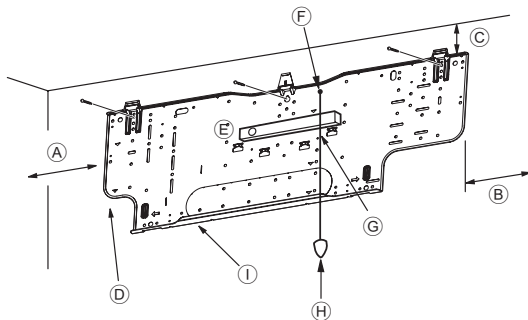
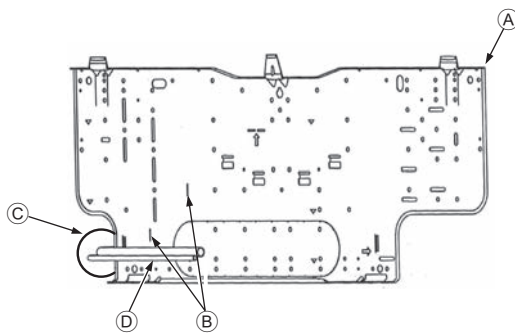

Fig. 3-4
Fig. 3-5
■ PKA-RP-HAL (Fig. 3-4)
- D Fixing screws (4 × 35) ②
- I Mount board ①
3.3. When embedding pipes into the wall (Fig. 3-5)
- A Mount board ①